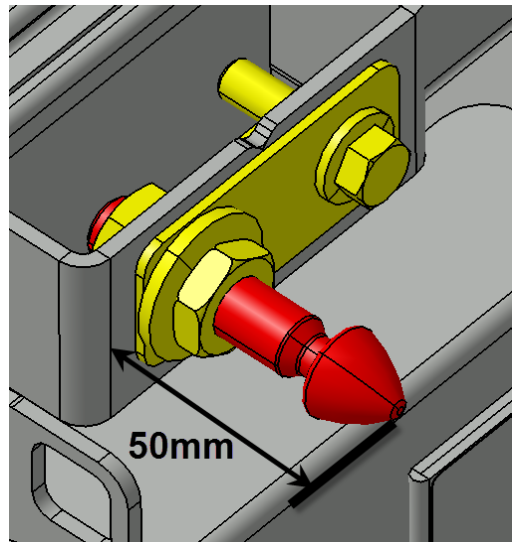

FIGURE 129
3. Before adjusting the pin, make sure that it doesn't exceed more than 2" (50mm) at the first closing of the door (FIGURE 129). Damage to the door can result if this condition is not respected.